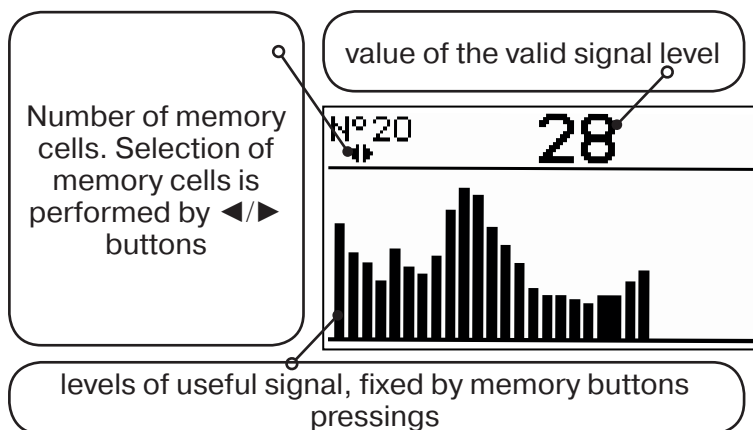

Fig. A.8
The receiver has an ability to record/view 30 saved signal levels (fig.A.8). Output signal level values are recorded every time the memory button pos. 6.fig.2.1 is pressed in the measurement mode.